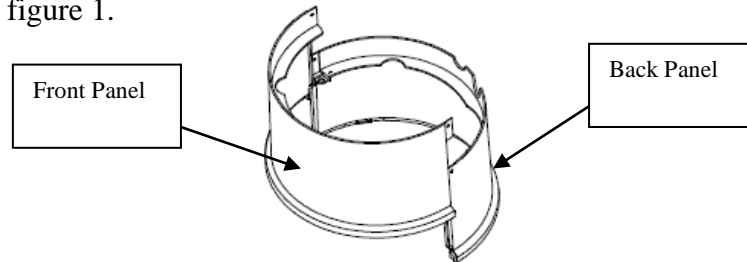

Fig. 1
- a) Align both the front and back panels of the platform and assemble as shown in figure 1.